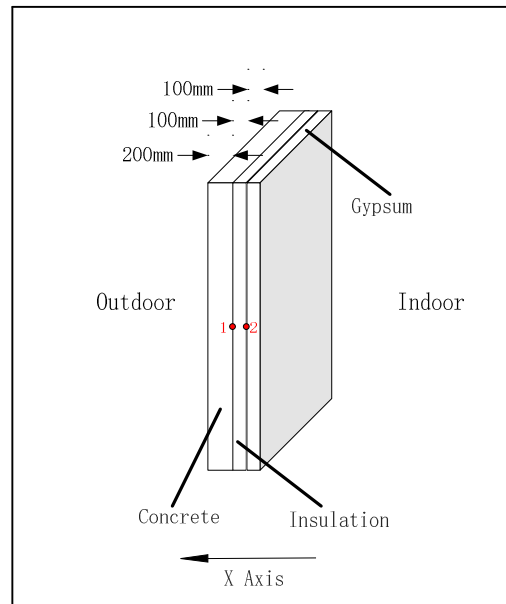

Figure 5. Wall structure
5.2 A multiple-layer wall is exposed to indoor (temperature 20 °C, humidity 90%) and outdoor (temperature 0 °C, humidity 90 %) air as shown in Figure 5. Under steady-state condition, determine